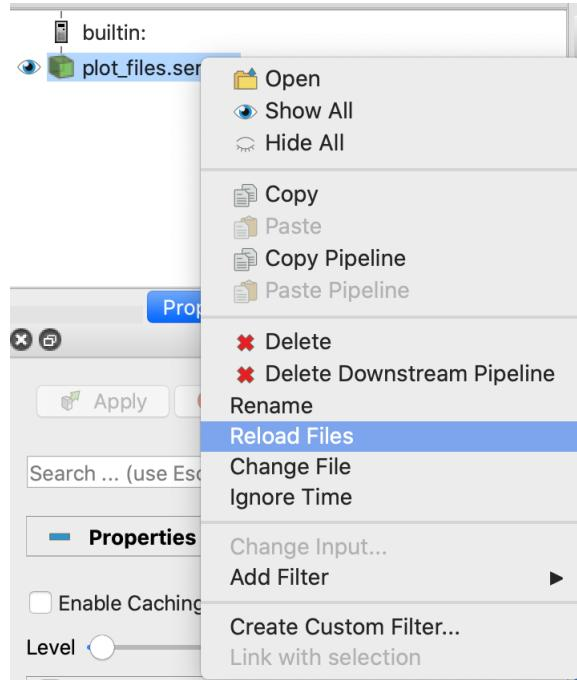
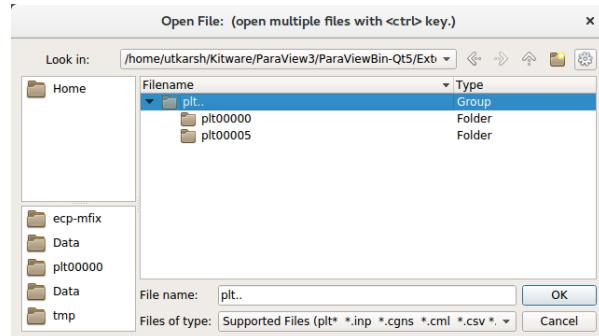

Fig. 18.2: File dialog in ParaView showing how to reload a series file
Fig. 18.3: : File dialog in ParaView showing a group of plotfile directories selected
2. Navigate to your run directory, and select the fluid or particle plotfile. Note that you can either open single/multiple plotfile(s) at once by selecting them one by one or select an ensemble of file, labelled as `plt..` and indicated as a Group in the “Type” column of the file explorer (see Fig. 18.3). In the later case, Paraview
This will generate a file `plot_files.series`. Open ParaView, and then select “File” → “Open”. In the “Files of Type” dropdown menu (see Fig. 18.3) choose the option `All Files (*)`. Then choose `plot_files.series` and click “OK”. Now the plotfiles have been loaded as a Group as in Step 2 of section ParaView. Now, you can follow the steps 2 to 7 in the section ParaView to plot. As new plotfiles are generated, just re-run the bash script to re-generate the `plot_files.series` file, right-click on `plot_files.series` in the ParaView menu, and click on “Reload Files” (see Fig. 18.2).
1. Run ParaView v5.7, and select then “File” → “Open”. You will see a combined “plt..” group. Click on “+” to expand the group, if you want inspect the files in the group. You can select an individual plotfile directory or select a group of directories to read them a time series, as shown in Fig. 18.3, and click OK. ParaView will ask you about the file type – choose “AMReX/BoxLib Particles Reader”.